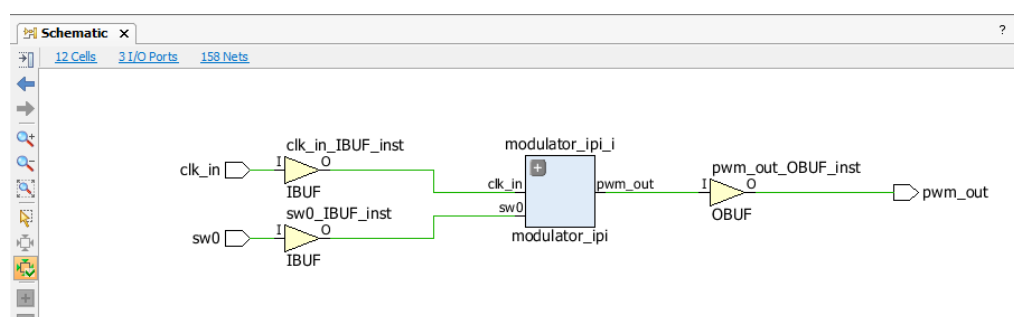

Figure 40. Synthesized schematic
- 3-3-11.** Synthesize your design with **Run Synthesis** option from the **Flow Navigator**. Your synthesized design should now include input and output buffers (Figure 40).